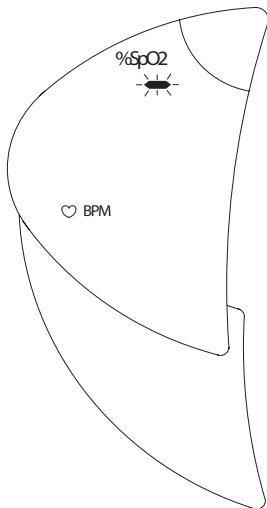

Figure 4.5: Data Collection Mode display
- The SpO2 display will show one flashing bar and heart rate display will be blank (see Fig. 4.5).
- Pressing and holding the % key for six (6) seconds will turn off the unit. While pressing the % key, the flashing bar will flash at a higher frequency indicating that the unit is about to be powered down.